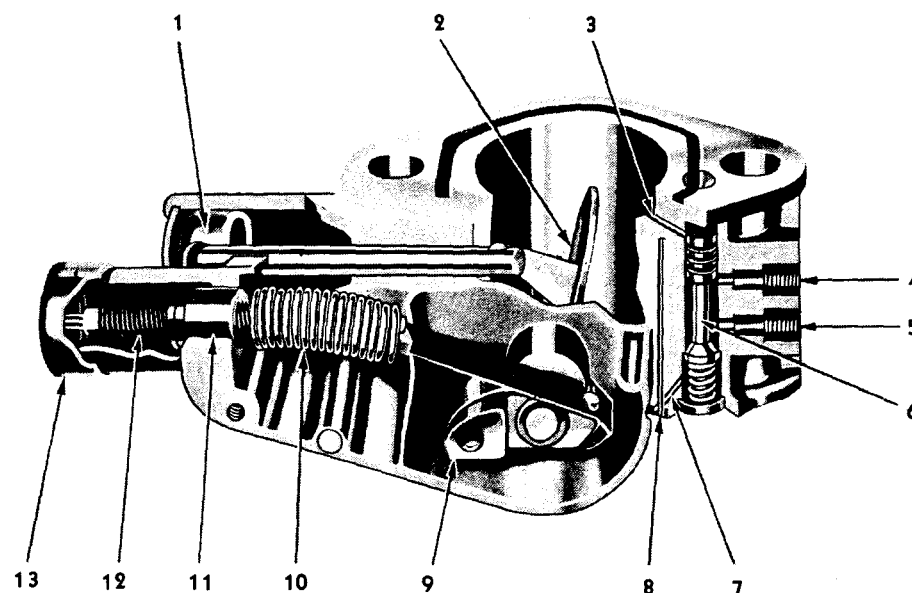

Figure 71 — King Seeley (Handy) Governor (Sectional View)
To adjust governor, refer to Fig. 71, and proceed as follows: For a **HIGHER** speed, turn adjusting cap (13) counter-clockwise or to the left; for **LOWER** speeds, turn adjusting cap clockwise or to the right. One turn of the adjusting screw will change the engine speed approximately 300 rpm.